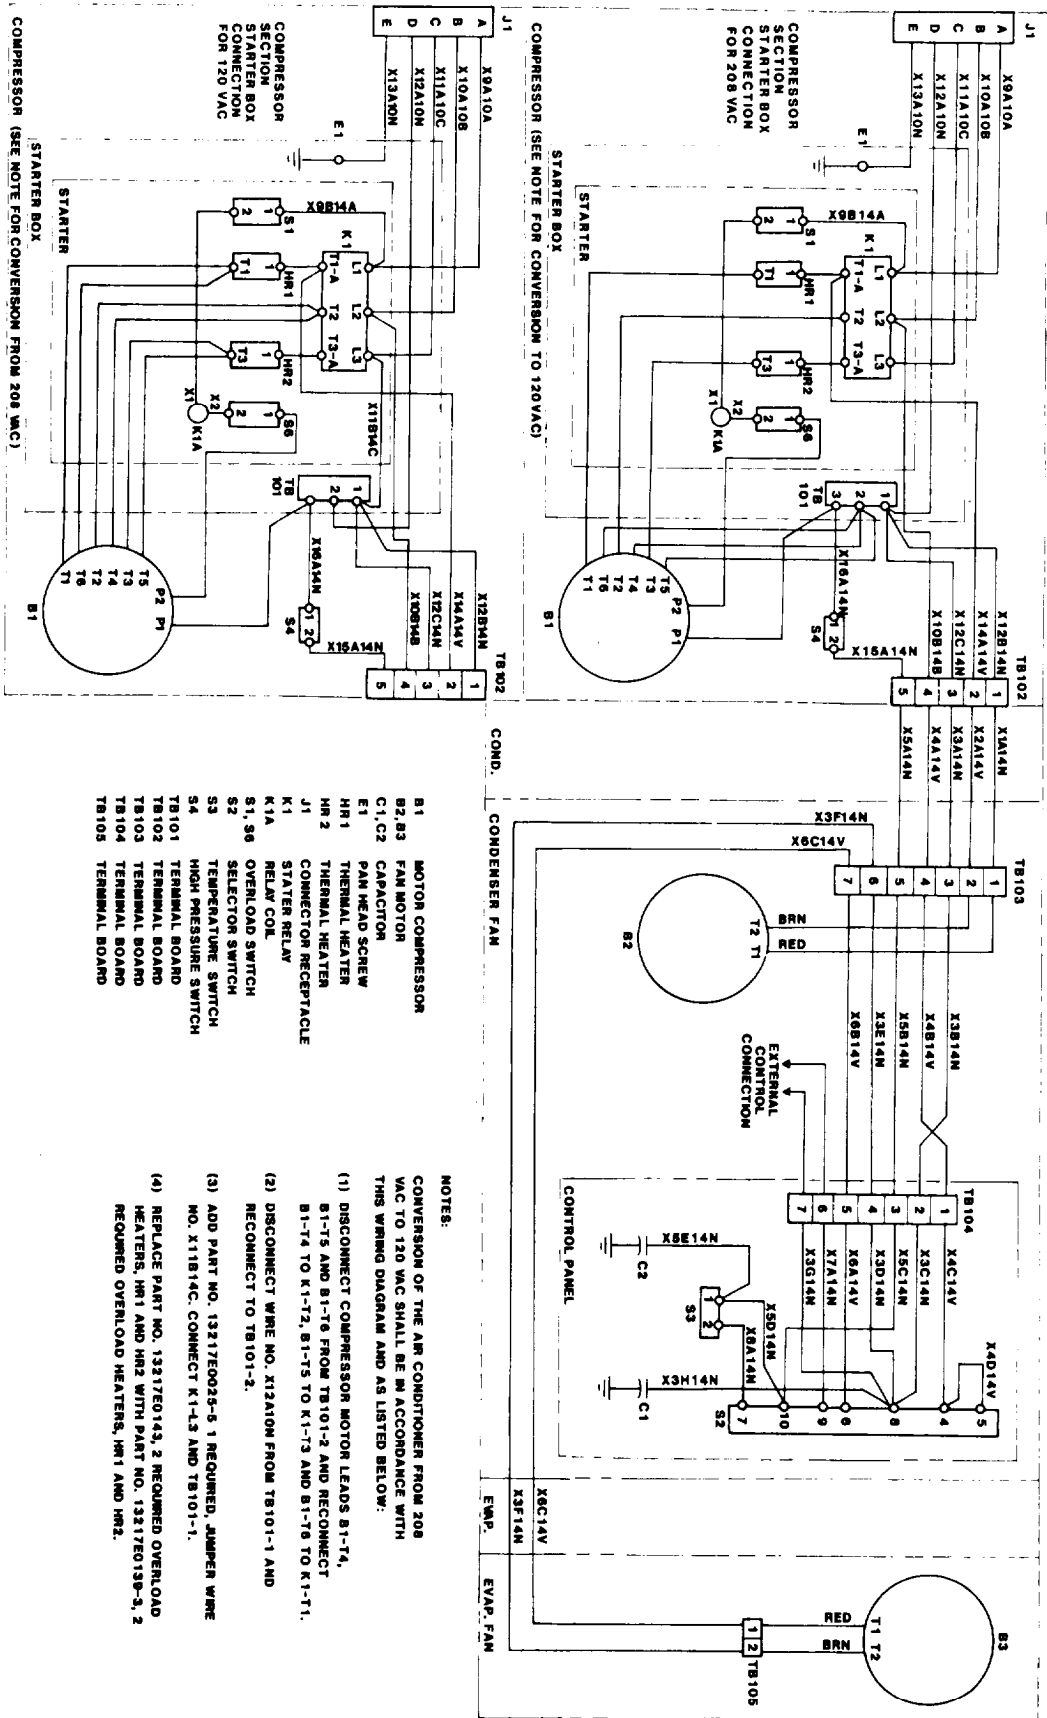

Figure 3-2. Electrical wiring diagram
(2) Position the unit on the shelter wall for alignment of duct openings. Secure the unit to the wall by drilling holes in the back cover in alignment with the holes in the corners of the frame and install 5/16 inch bolts of the proper length.
(3) The unit is shipped for 208 volt, 3-phase, 50/60 Hz power. Connect a power source capable of delivering 208 volt, 3-phase, 50/60 Hz power to the connector on the rear panel of the compressor section. The unit may be converted to operate on 120 volt, 3-phase, 50/60 Hz power by changing the heater elements, adding a jumper and reconnecting certain leads as shown in the wiring diagram, figure 3-2.